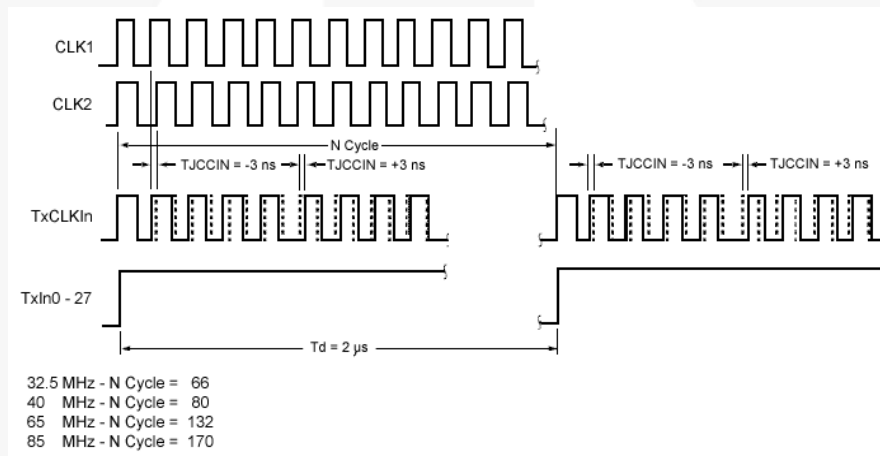

Figure 24. Timing Diagram of Transmitter Clock Input with Jitter
25. Test setup considers no requirement for separation of RMS and deterministic jitter. Other hardware setups, such as Wavecrest boxes, can be used if no M1 software is available, but the test methodology in Figure 24 should be followed.